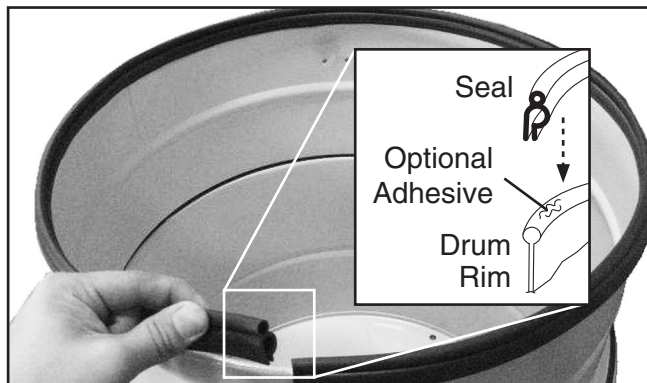

Figure 28. Installing canister seal.
18. Insert the rubber seal over the top lip of the collection drum rim. Pay special attention to the direction of the seal, as shown in the **Figure 28**.